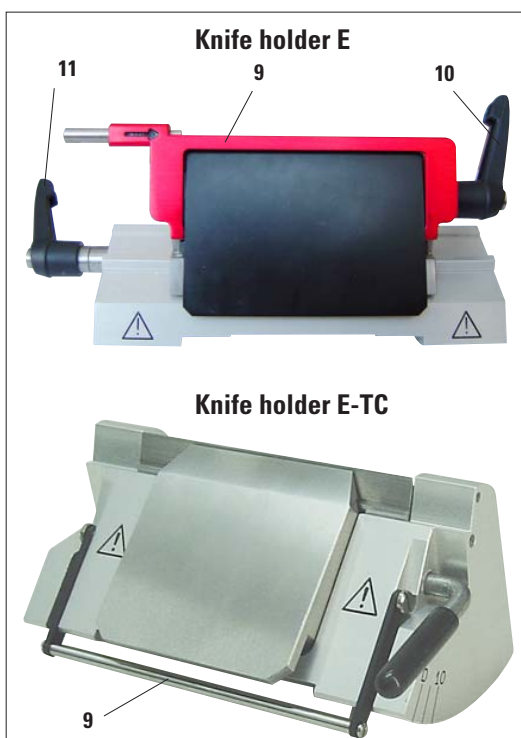

Fig. 4
The knife guard on knife holder E/E-TC consists of a red foldaway handle (9). To cover the cutting edge, fold the knife guard handle (9) upwards as illustrated in Fig. 4.